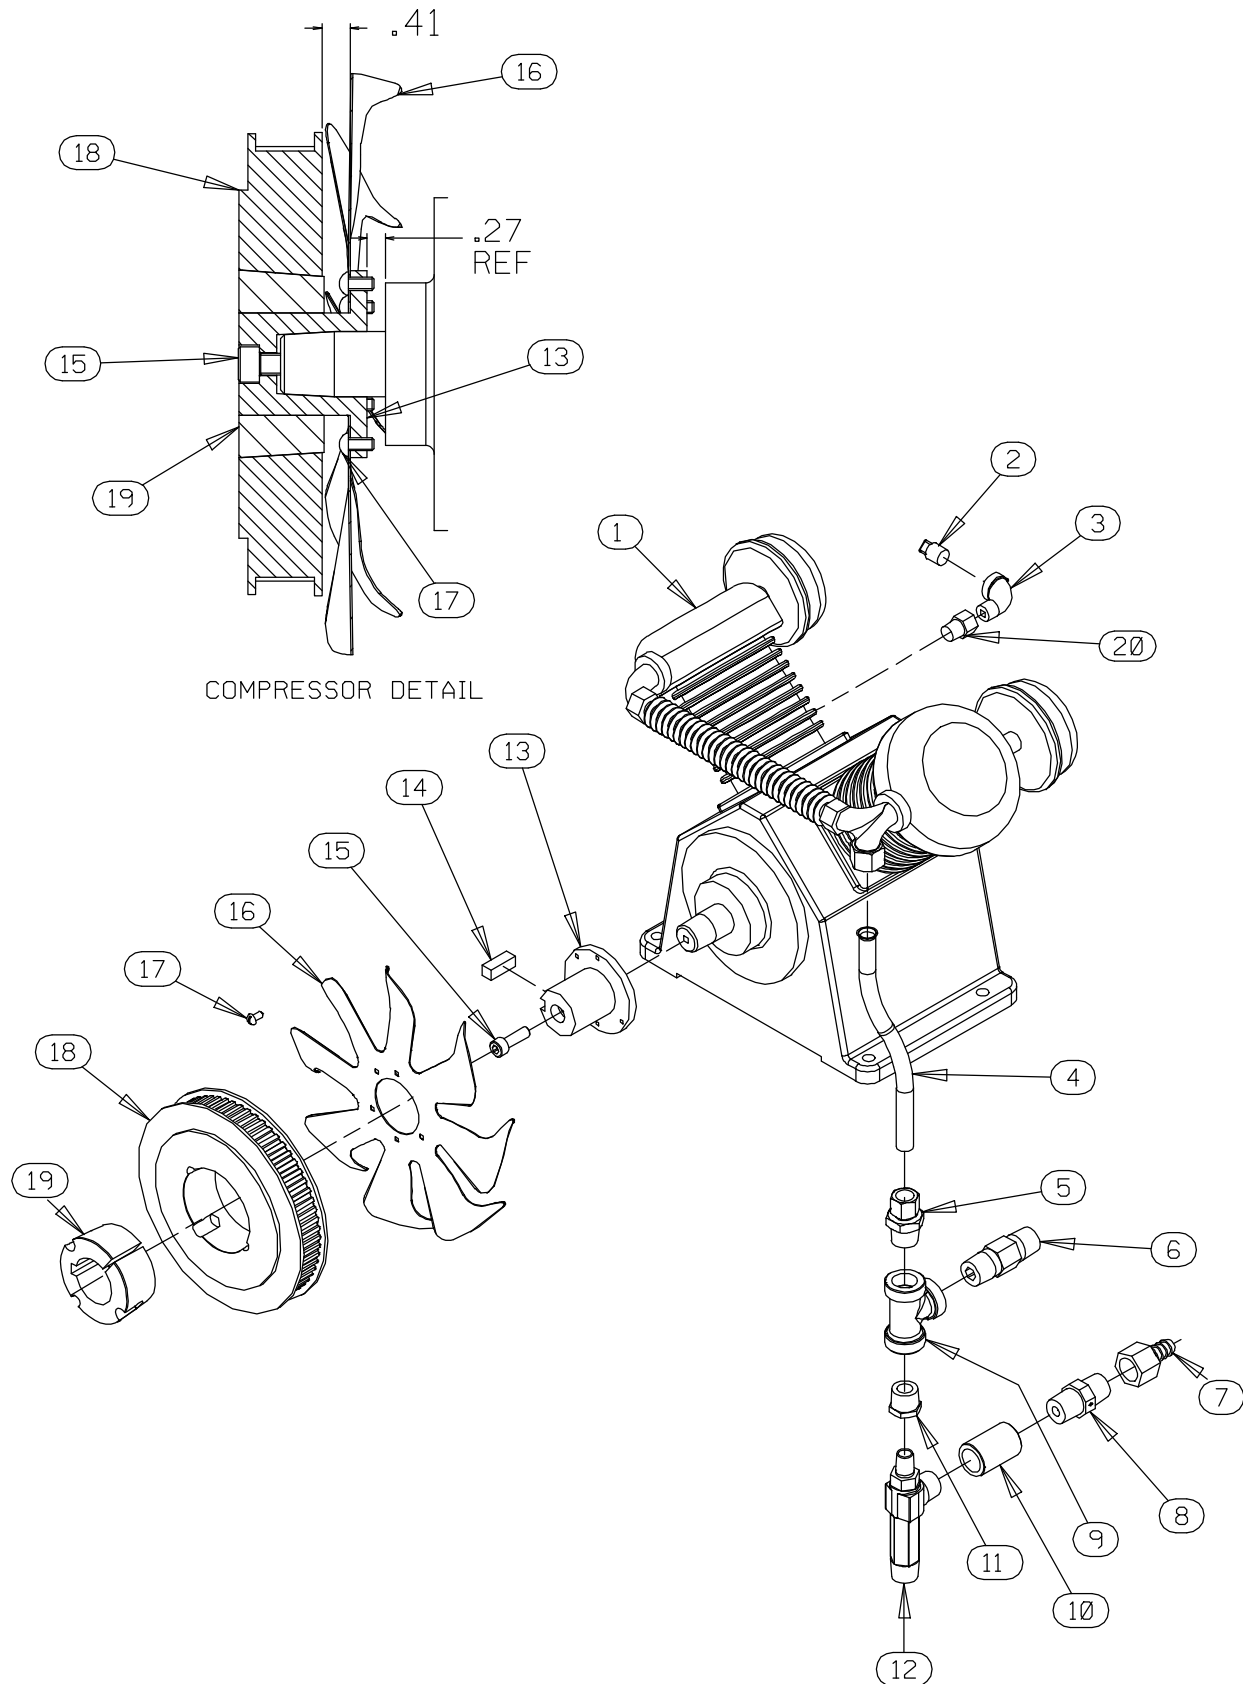

Figure 4. Air Compressor Assembly
Remove the hardware (19 and 44) and use a pry bar to raise the air compressor high enough to remove the spacers (47). Remove the belt (41) from the air compressor drive pulley (18, Figure 4).